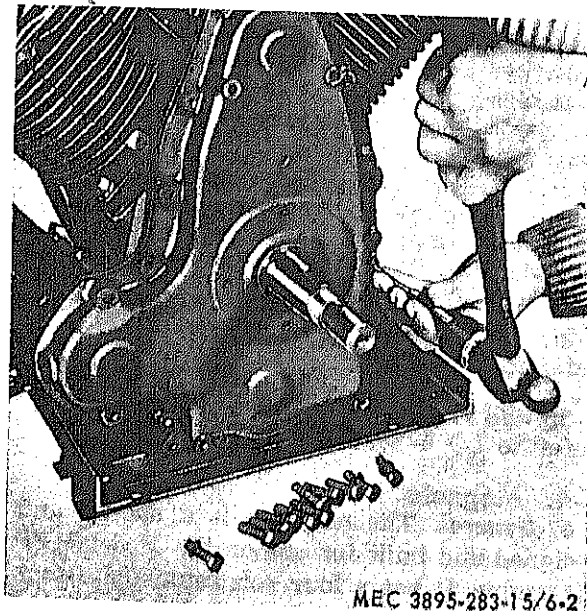

Figure 6-2. Gear Cover Removal.
a. Removal figure 6-2.
(1) Disconnect the governor linkage and remove the governor.
(2) Remove gear cover screws and drive out the two dowel pins.
(3) Lift cover away exposing the timing gears.